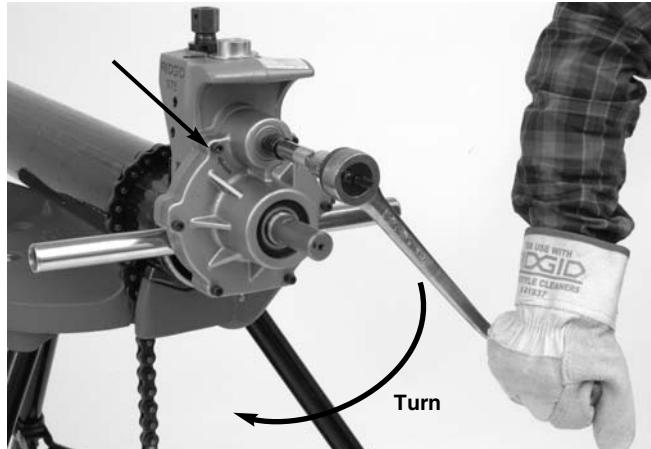

Figure 17 – Turning the Ratchet in the Direction of the Arrows
- Turn the ratchet clockwise as viewed from the back of the roll groover (this will match the arrows cast into the back of the roll groover, see Figure 17). Watch the groover rotate and be sure that the cover plate of the roll groover stays in contact with the end of the pipe. If the roll groover starts to move away from the pipe end, stop rotating the ratchet to prevent the roll groover from spiraling off the pipe end and falling. The roll groover support arms can be pushed on to help bring the cover plate back in contact with the pipe end. If needed, re-mount the roll groover to the pipe. (see "Mounting Roll Groover to Pipe" section). If the pipe end is deformed, it will need to be cut off and a new groove prepared.